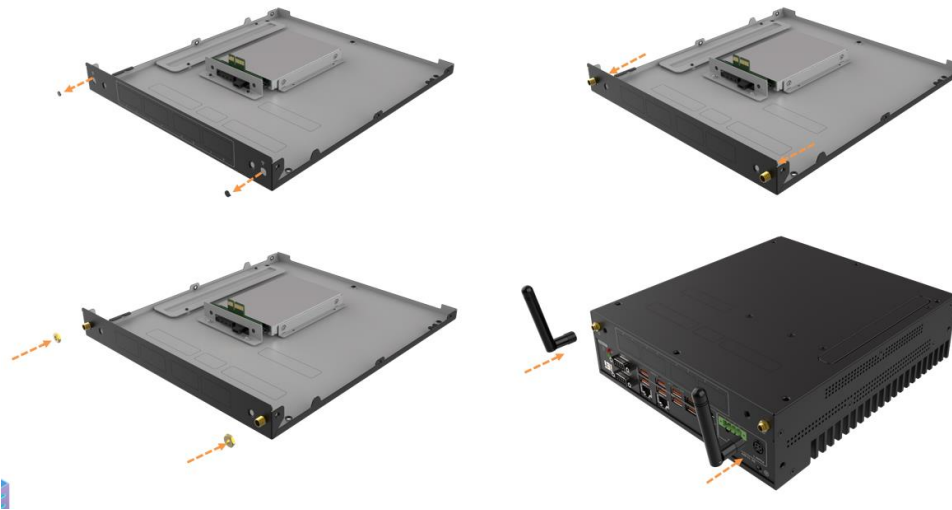

Figure 3-9: Wi-Fi Module and Wi-Fi Antenna Installation
- Step 5:** Install the external antennas(**Figure 3-9**)